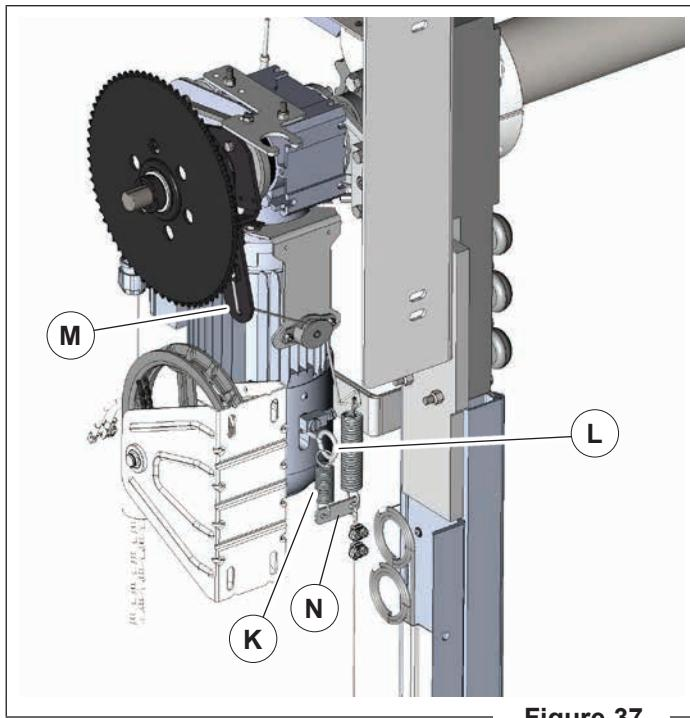

Figure 37
9. Attach the smaller of the 2 springs (K) to the brake release eye bolt (L) (**Figure 37**). Smaller spring should be toward the outside.
10. Route the short cable (M) through the pulley, then through the hole in the bottom of the engagement arm bracket and clamp it behind the pressure plate. The spring plate (N) should sit level when hanging without the hand lever engaged (**Figure 37**).
18. Route the longer cable (O) (Figure 34) attached to the hand lever up through the larger hole on the spring plate (N) (Figure 37).